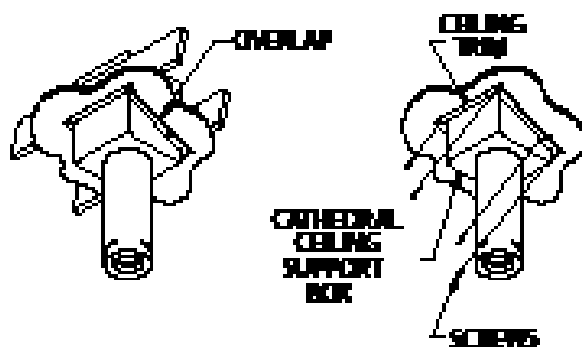

Figure 22
Step 9. Install the black Trim Collar around the outside of the Cathedral Ceiling Support Box. The two pieces of the Trim Collar slide over one another to allow for easy adjustment around the Support Box. Using the six (6) screws provided, secure the four corners and the overlapping sections of the Trim Collar to the underside of ceiling. You may want to pre-drill the holes for the overlapped sections for ease of installation (Fig. 22).